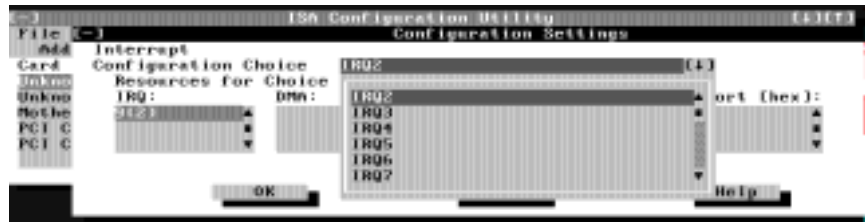

Figure 4-5. Available Settings List Box
- To change the resource settings, click the down-arrow next to the Configuration Choice box. Then click the new resource setting from the list of available settings (see Figure 4-5).**